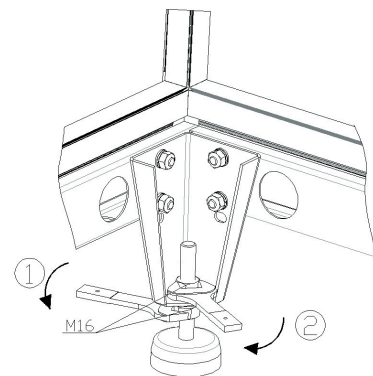

Figure 13
- The foundation may be substituted by mounting the air handling unit onto base legs, fitted with a structural noise and vibration insulation bolt, allowing levelling within a range of 30 mm (Figure 13).
- The legs are to be mounted on site. Mount the legs to the base frame from the inner side with M10x20 bolts, as shown in Figure 13.
- To level each leg within the 30 mm range use a wrench for M16 bolts. The height of the leg can be adjusted with the lower nut, – see Figure 13. After reaching the correct level, tighten the upper nut.